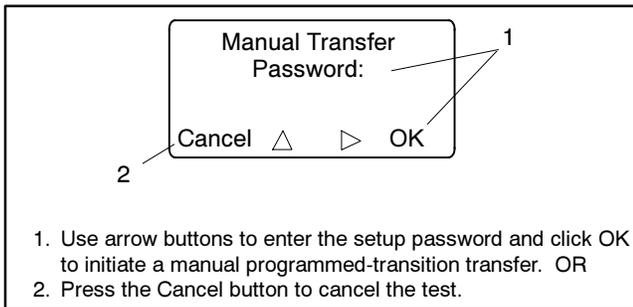

Figure 3-13 Manual Transfer Screen for Programmed-Transition Override
- If the override function is set to manual, the user can either initiate a programmed-transition type transfer (setup password required) or cancel the test sequence. See Figure 3-13. If neither action is taken, the controller will continue to check for synchronization and transfer if the sources synchronize.